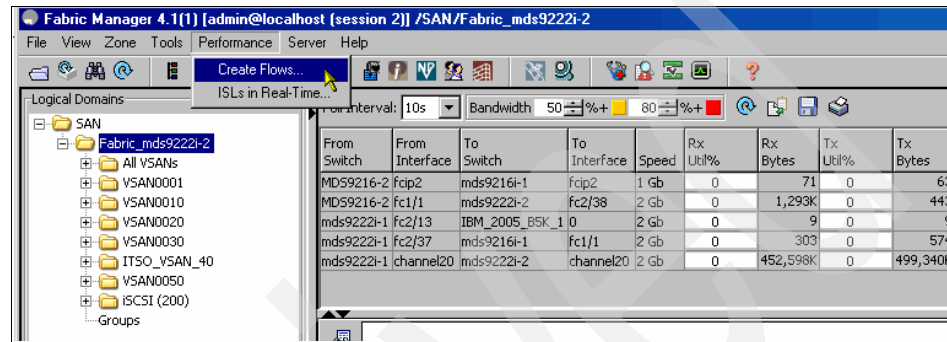

Figure 8-36 Define a Flow using the Fabric Manager
1. Choose **Performance** → **Create Flow**, as shown in Figure 8-36.